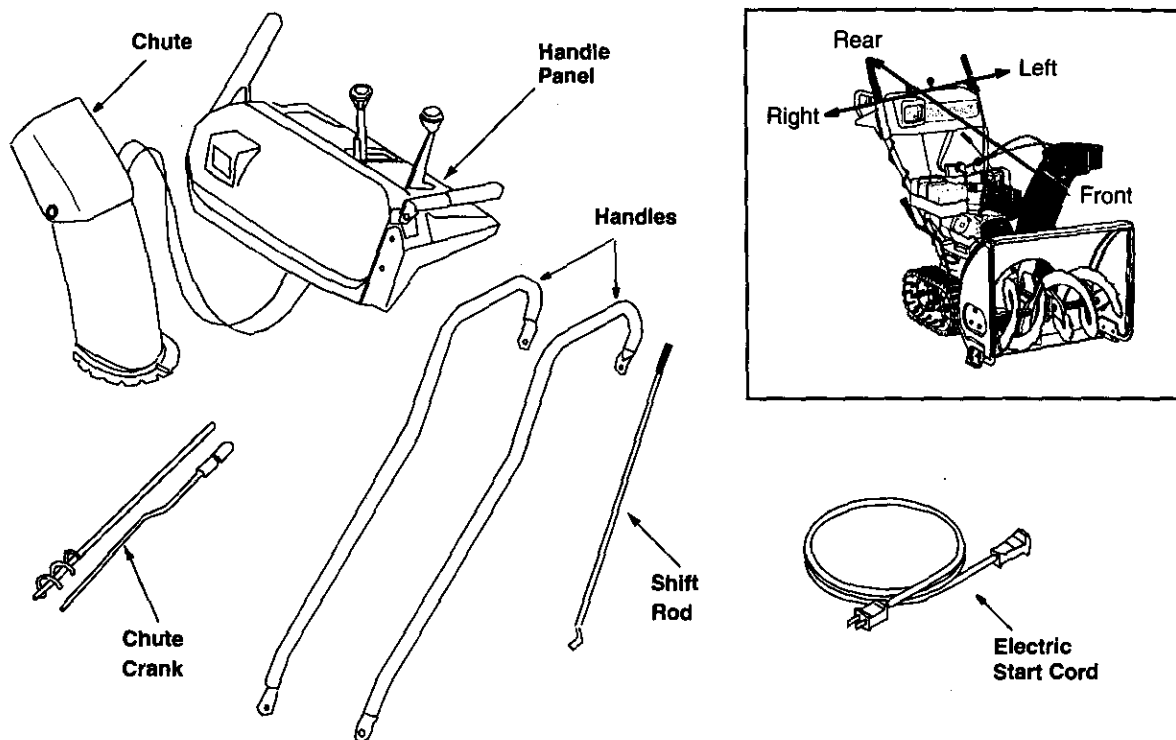

Figure 1
**NOTE:** To determine right and left hand sides of your snow thrower, stand behind the unit in the operator's position. See Figure 1 inset.
(See Figure 1.)